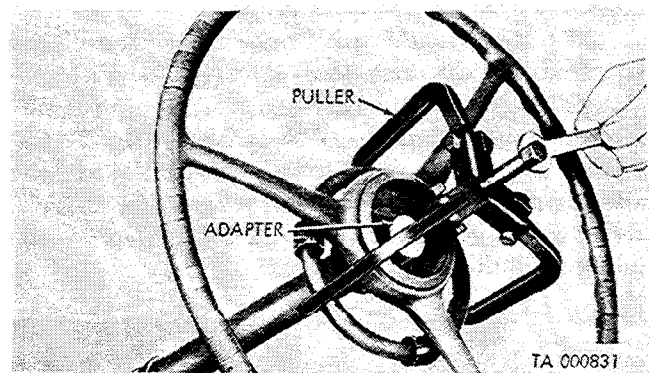

Figure 2-166. Removing steering wheel.
a. Removal (fig. 2-166).
(1) Remove the horn button cable (para 2-54 b).
(2) Remove the steering wheel nut and the horn button lower retaining plate.
(3) Install the adapter and puller on the steering wheel (fig. 2-166) with the three rubber pads on the ring bearing against the three wheel spokes, and the three puller jaws spaced midway between spokes.
(4) Tighten the puller screw in against the adapter. If the puller screw is difficult to turn, strike the end of the screw smartly with a medium hammer to dislodge the wheel from the steering shaft.